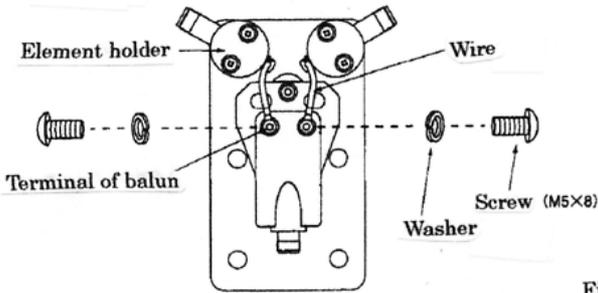

Fig. 2
2. Assemble wire to a terminal of balun (Fig. 2)